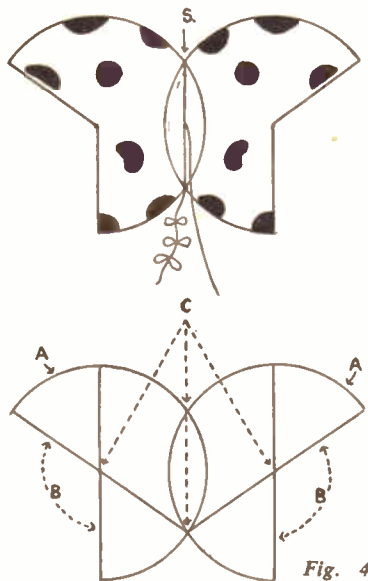

Fig. 4
This is a really lovely kite (Fig. 4) and most graceful in flight. Two 2 ft. 6 ins. lengths of split cane are required. These are bent to a curve as at (A). Tie a piece of strong string (B) to one end of each of these curved sticks, and take the string to a point 3 ins. from the other end.